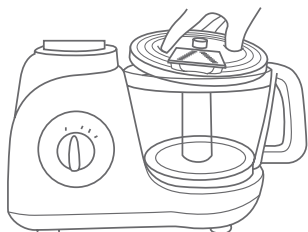

Fig. 12
2. Place the cutter holder into the blade shaft (b) central and fixed in place firmly. The blades that it has four edges must place up, otherwise don't fix the cutter holder. (Fig. 12)